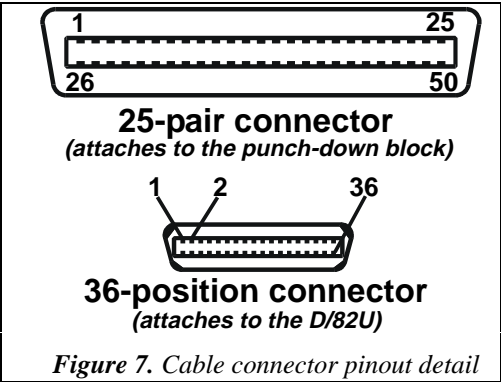

Figure 7. Cable connector pinout detail
- As shown in Figure 7, the station interface cable terminates at the punch-down block end with a 25-pair, 57-series Amphenol plug to allow available type-66 punch-down blocks to be used to terminate the PBX station wiring. The mini-D cable that connects to the D/82JCT-U has a 36-position connector.